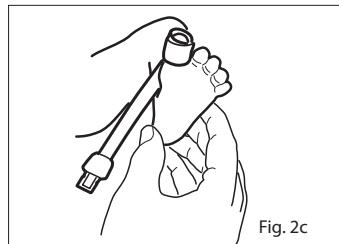

Fig. 2c
4. Refer to Fig. 2c. Ensure that the emitter window (✳) aligns on the top of the toe directly opposite the detector. Verify correct positioning and reposition if necessary.